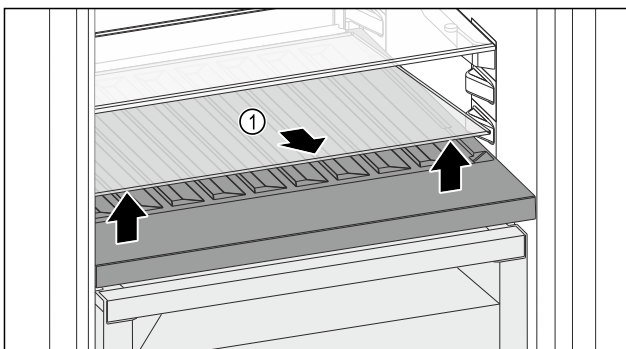

Fig. 106
- ▶ Lift the glass shelf Fig. 106 (1) in the front at the recess and pull it out.
- ▶ Store the glass shelf Fig. 106 (1) somewhere safe outside of the appliance.
- ▶ Insert the glass shelf (2) below the variable bottle rack.